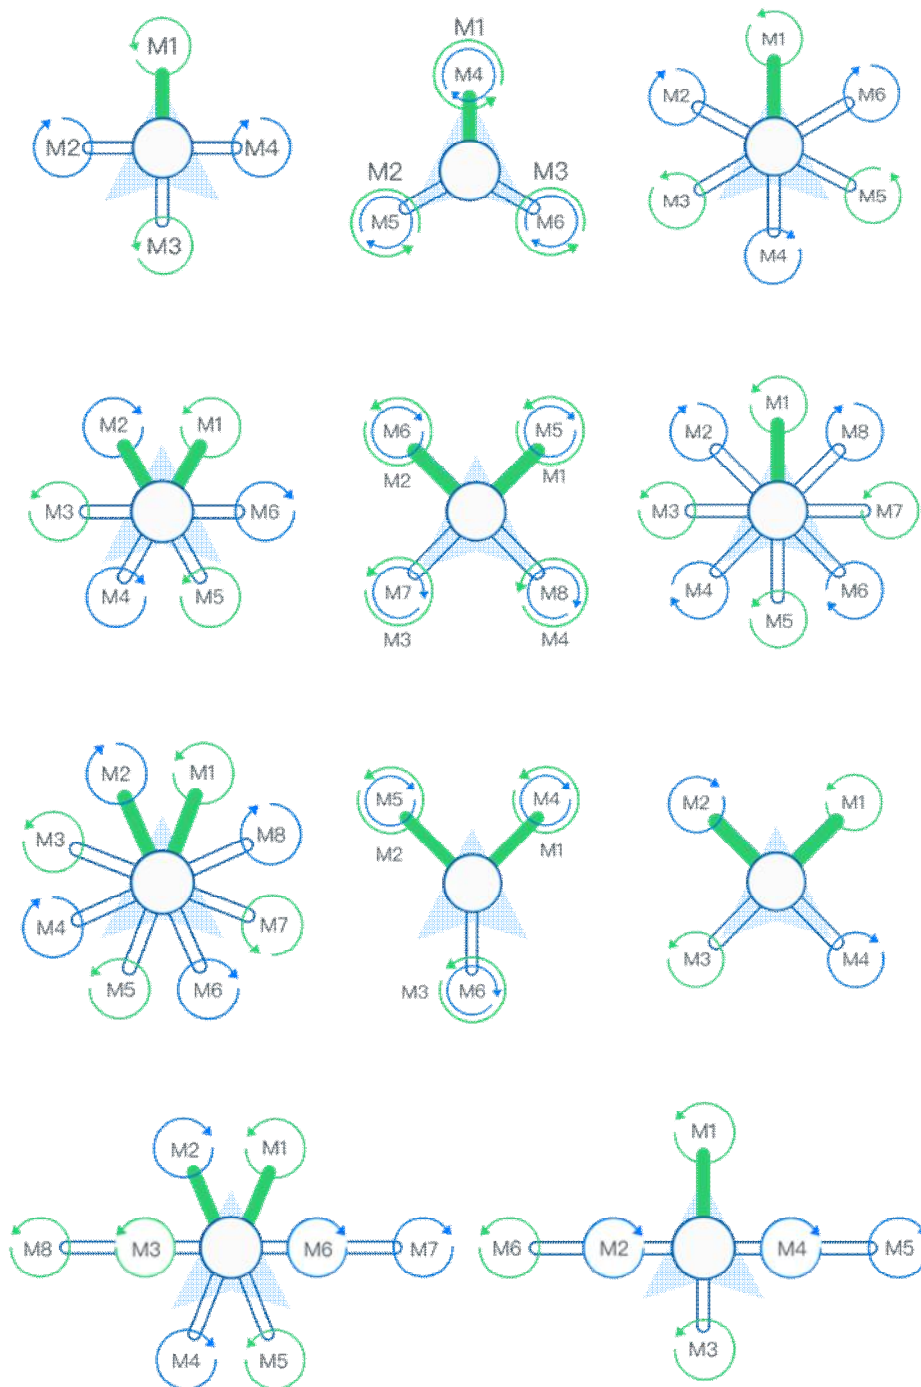

Figure 2-1 Determining the type of multi-rotor
Step 1. Determine the multi-rotor type and head orientation and install the motor and blades as shown in Figure 2-1.